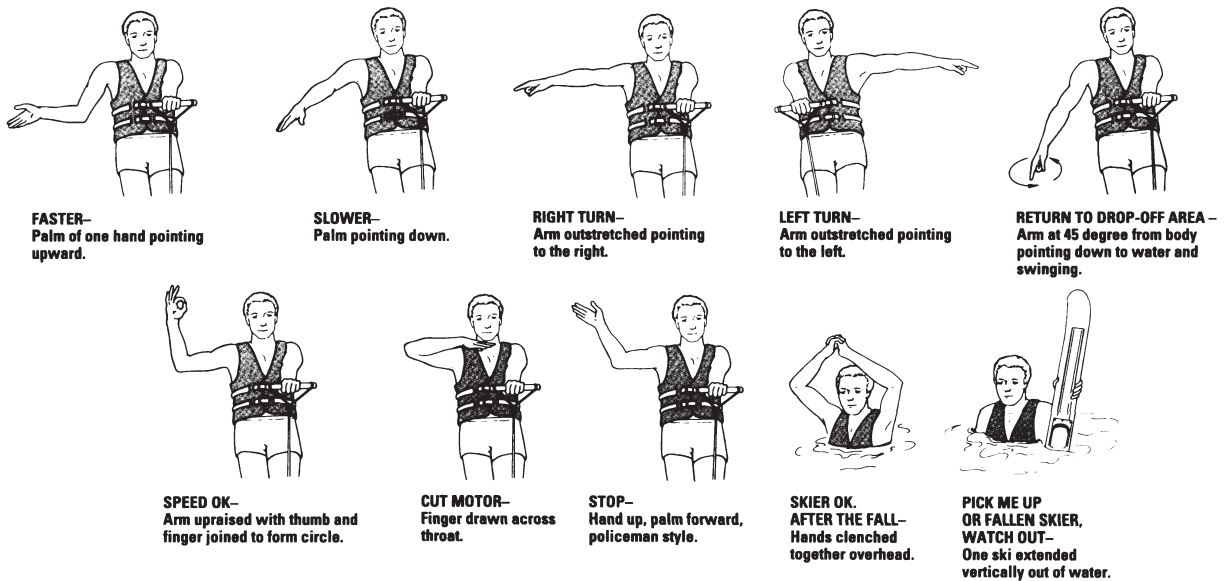

Figure A17: Skier's Hand Signals
3. Have a second person aboard to observe the skier and inform the driver about the skier's hand signals (Figure A17). The driver must give full attention to operating the boat and the waters ahead.